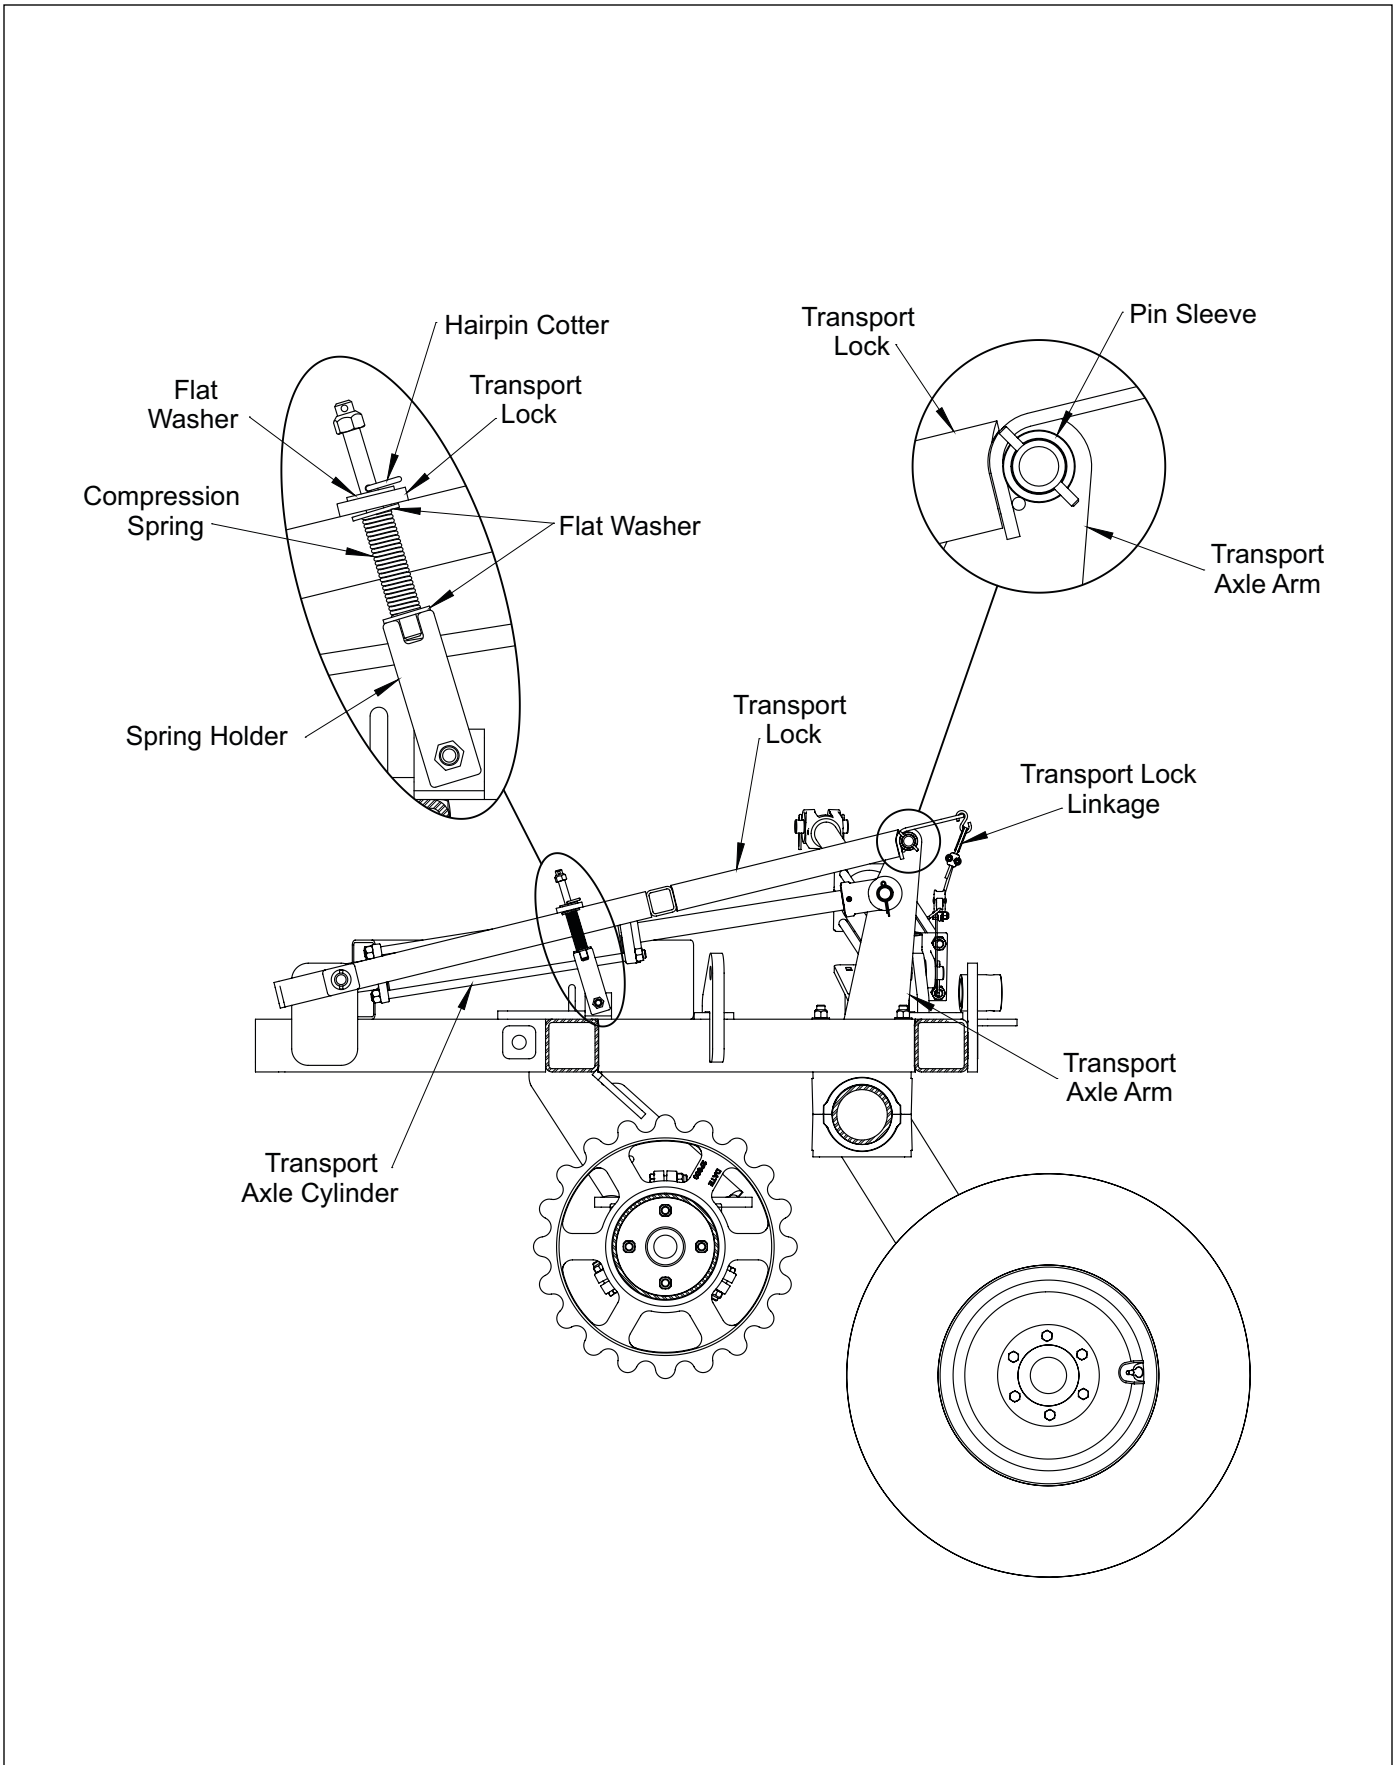

Figure 3-6: Transport Lock Locked Position
5. Fully extend the hydraulic lift cylinders, and retract the wing fold cylinders. Transport lock will engage when lift cylinder is extended. Secure transport lock with hairpin cotters. See **Figure 3-6**.
Be sure Transport Lock is either locked or unlocked. See **Figures 3-6 and 3-7**.